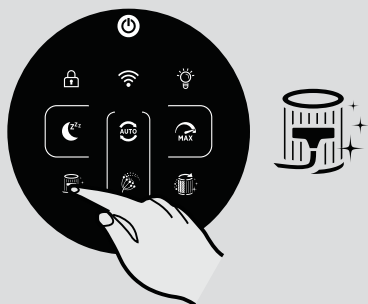

Fig. 12
FILTER CLEANING ALERT Function [Fig. 12]:
- Press and hold the FILTER CLEANING button or FILTER REPLACEMENT button for 3 secs, an audible alert will be heard to indicate a successful reset, and the button will be off. [Fig. 12,13]